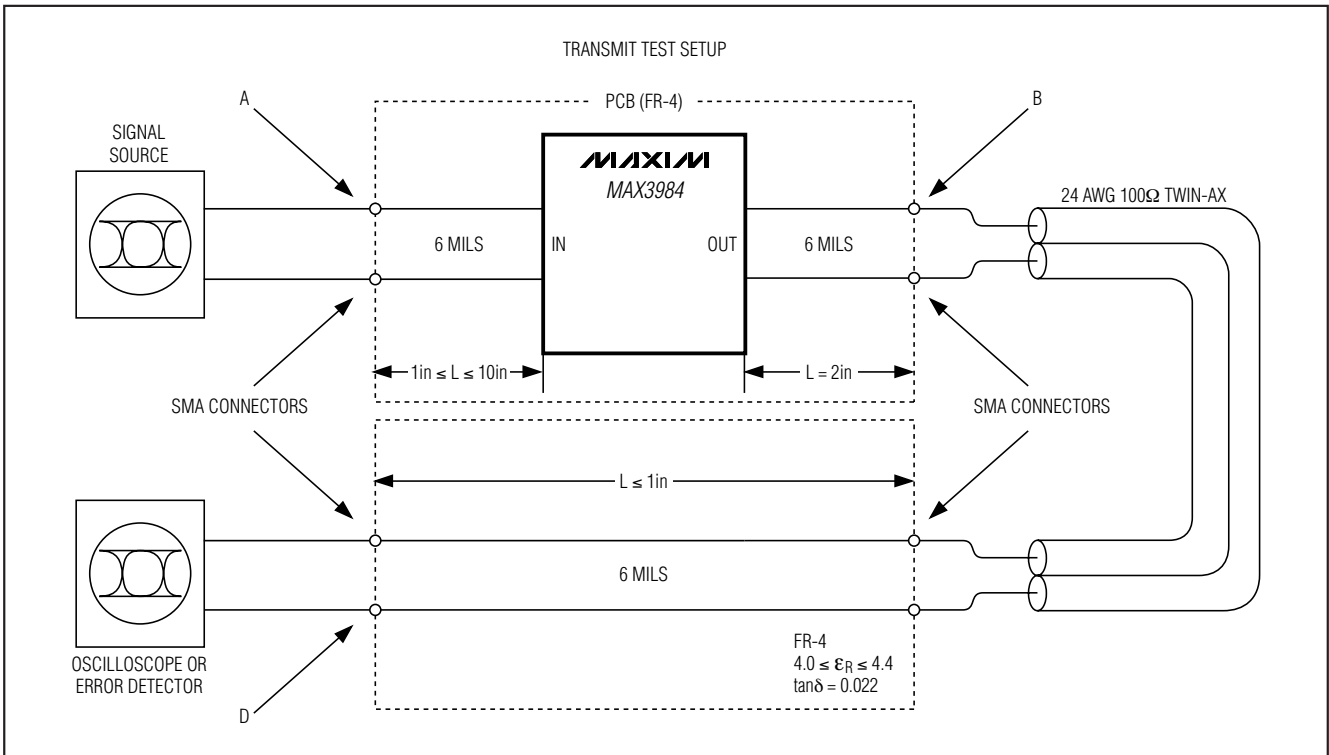

图2. 发送测试设置(标注为A、B、D的点为交流参数测试的参考点。在D点进行确定性抖动和眼图测量)。
Note 9: Input range selection is IN_LEV = logic-high for FR-4 input equalization. Cables are unequalized, Amphenol Spectra-Strip (160-2499-997) 24 AWG or equivalent. Residual deterministic jitter is the difference between the source jitter at point A and the load jitter point D in Figure 2. The deterministic jitter (DJ) at the output of the transmission line must be from media induced loss and not from clock source modulation. DJ is measured at point D of Figure 2.